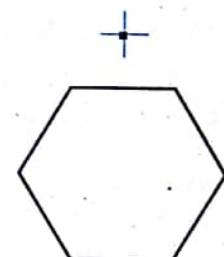

FIG. 14.5
**Example :** Draw a hexagon with side equal to 30 mm. Refer figure 14.5.